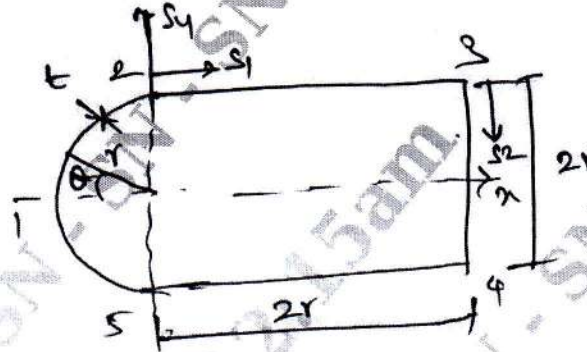

Fig. Q4 (a)
- 4 a. Determine the shear flow distribution in the walls of the thin-walled closed section beam as shown in Fig. Q4 (a). The wall thickness,  $t$  is constant throughout.